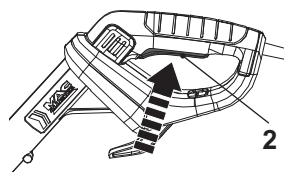

Fig. 15
1. Hold the product with one hand at the auxiliary handle (15) and with the other at the main handle (1).
2. Squeeze the on/off switch (2) to switch the product on (Fig. 15).
3. Release the on/off switch (2) to switch the product off.